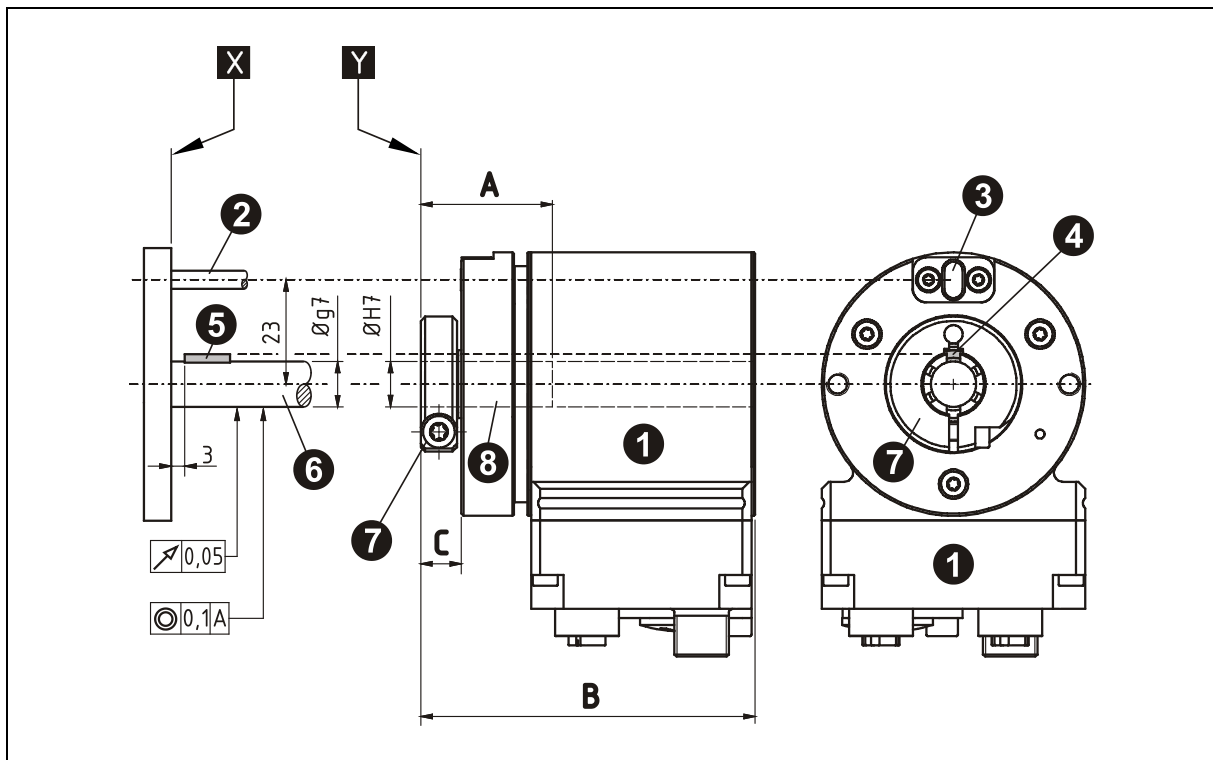

Figure 8: Installation with dowel pin and groove insert, illustration showing the principle
- A dowel pin is used to fix the measuring system on the drive end, see Figure 8.
- The dowel pin must extend at least 4 mm into the groove insert, max. 5.5 mm. The distance from the measuring system flange **Y** to the customer-provided device plane **X** must be > 1.5 mm, see Figure 8.